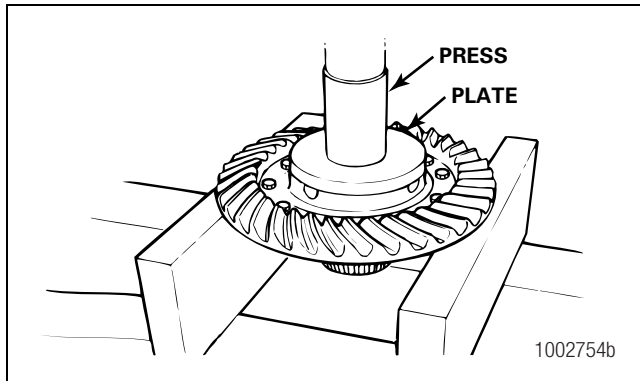

Figure 3.51
4. Place a sleeve or a flat metal plate on top of the case. Press the main differential case from the ring gear. Figure 3.51.